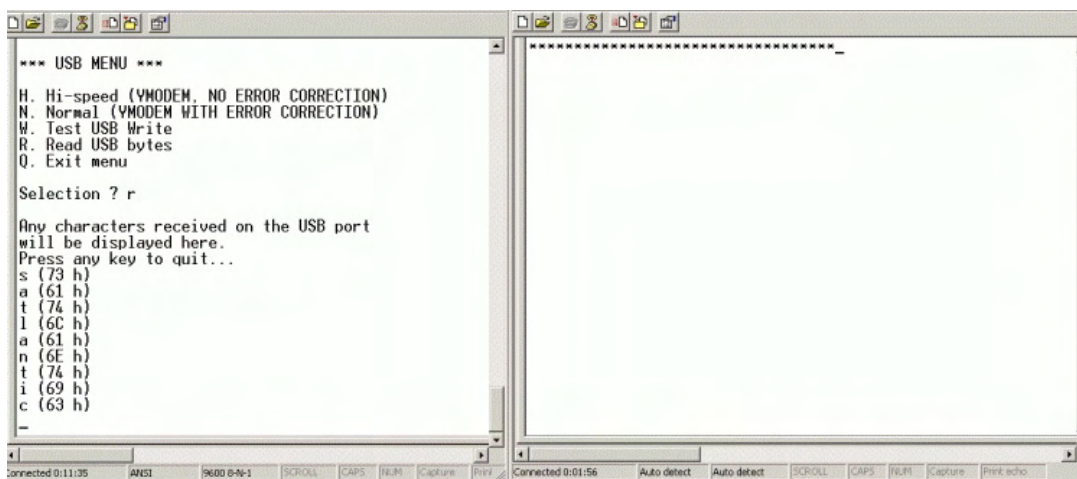

Figure 22 - USBVCP Read test
10. If this is your first time using the USB port, or you are experiencing problems, try a simple read test from the PC USB port to the STOR-X by typing **R** in the RS-232 HyperTerminal window. Any characters you type in the USB port HyperTerminal window will be displayed in the STOR-X HyperTerminal window, along with the characters hexadecimal equivalent. In the example shown in Figure 22, "Satlantic" has been sent from the USB port to the STOR-X. Press any key in the STOR-X HyperTerminal window to stop the test. You will be returned to the main menu.